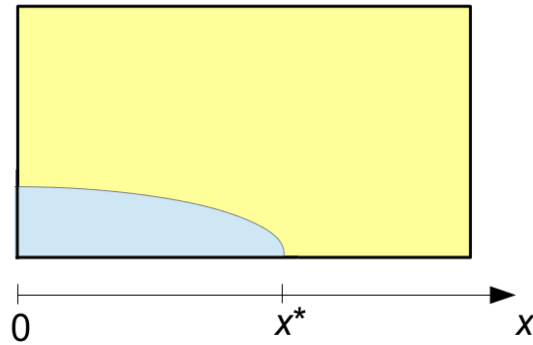

Fig. 2 The definition of x^* , the x-position of the leading edge of water.
- (b) If $x^*(t)$ denotes the position of the leading edge of water in x-direction (see Fig. 2) as a function of t , make a plot of $x^*(t)$ vs. t using the data points of $x^*(t)$ at $t = 0.5 \text{ s}$, 1 s , 1.5 s , 2 s , and 2.5 s as obtained from the simulation in Part (a). Perform a linear least-square fit of the 5 data points. The "slope" from the linear fit is an estimate of the average velocity, U , of the leading edge of water. What value of U (in m/s) do you obtain? What are the Δx (in m) and Δt (in s) that you used in the simulation in Part (a)? Based on the values of U , Δx , and Δt , what is the Courant number, $C \sim U\Delta t/\Delta x$? Is it less than 1 as is generally desired for maintaining numerical stability?